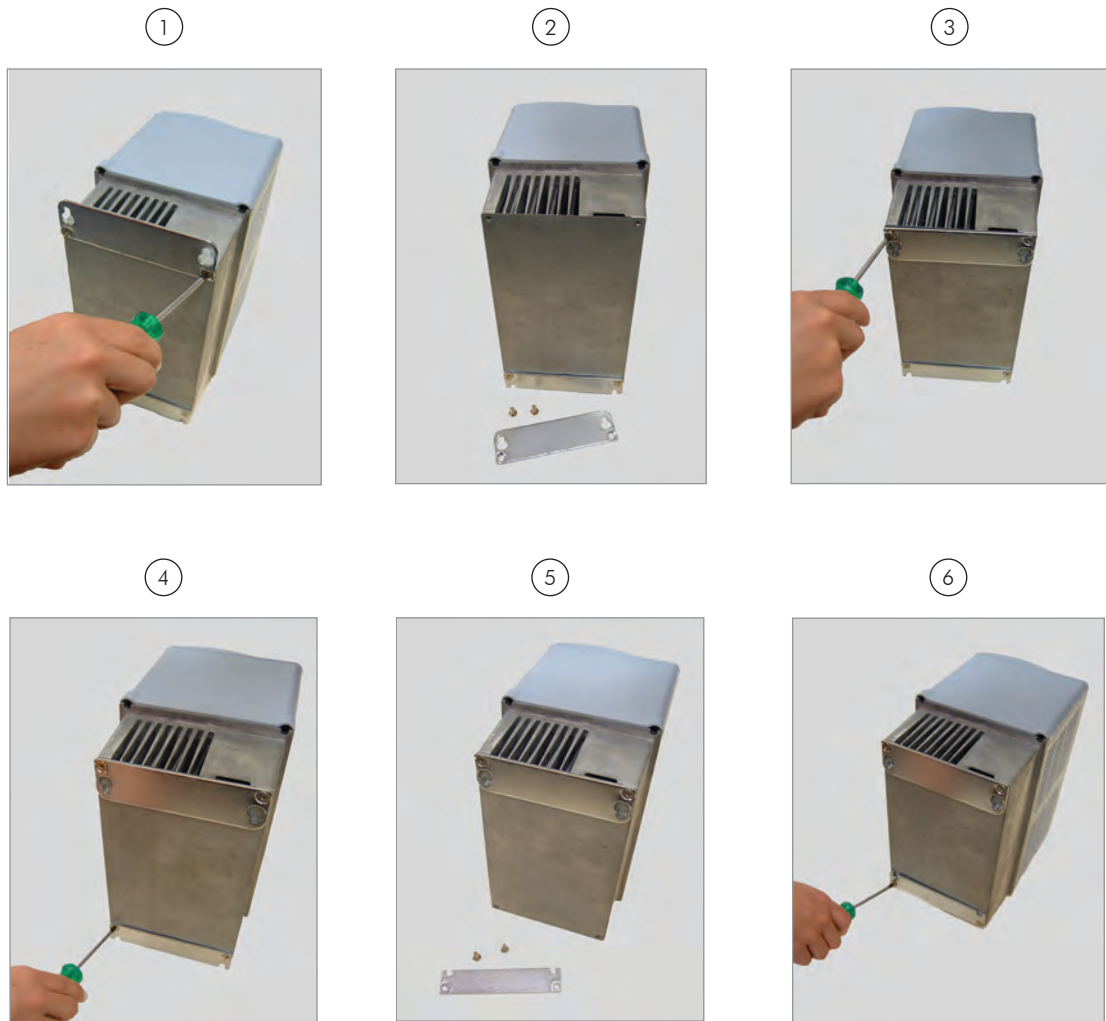

Figure 3.5 - Repositioning the mounting supports - frame sizes B, C and D
Minimum mounting clearances requirements for proper cooling air circulation are specified in Figure 3.3 on page 3-5, Figure 3.5 on page 3-9 and Figure 3.4 on page 3-6.
When arranging two or more inverters vertically, respect the minimum clearance A + B (Figure 3.3 on page 3-5, Figure 3.5 on page 3-9 and Figure 3.4 on page 3-6) and provide an air deflecting plate so that the heat rising up from the bottom inverter does not affect the top inverter.
- ☑ The mounting supports shall be removed and repositioned as illustrated in Figure 3.5 on page 3-9.